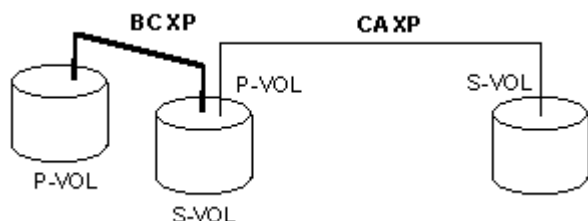

Figure 287 Shared BC S-VOL/CA P-VOL
- **Figure 287** shows an example of a BC S-VOL that is also used as a CA P-VOL.